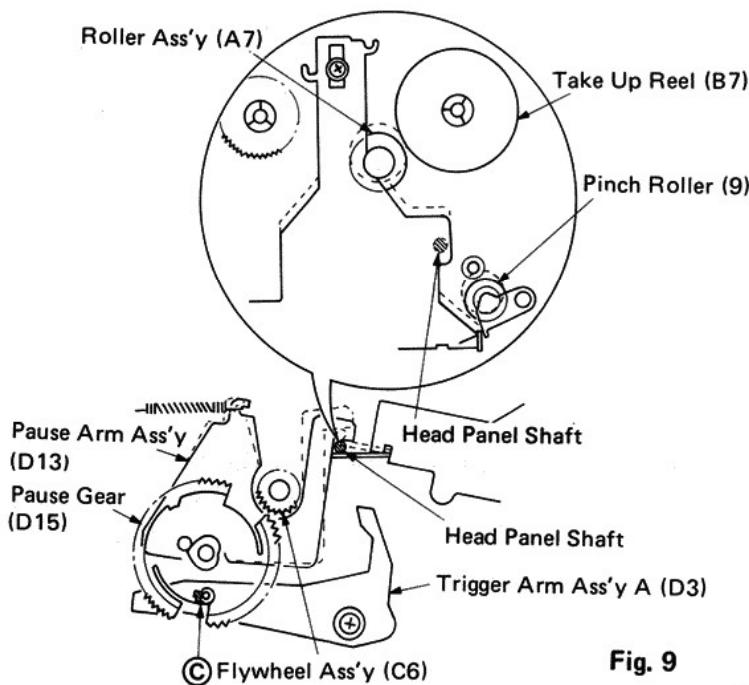

Fig. 9
- When the head panel makes a backward motion, the pinch roller (9) detaches from the tape so there is no contact between the roller assembly (A7) and the take-up reel assembly (B7). Therefore the mechanism is in the PAUSE MODE. (Fig. 9)